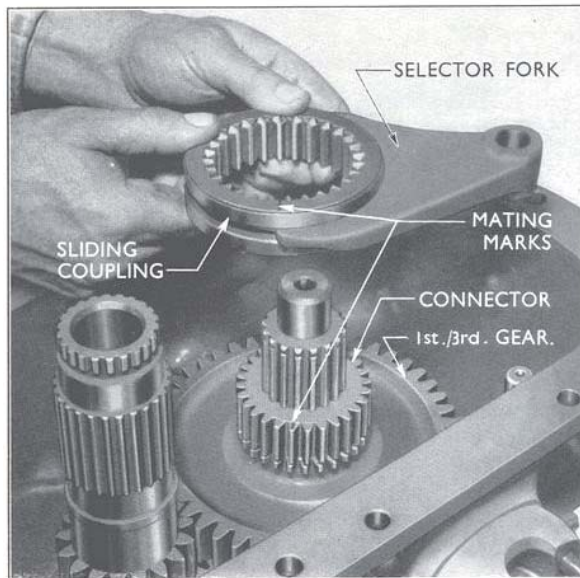

Fig. 18
4. Extract the circlip from the front end of the mainshaft and remove the splined thrust washer, followed by the second/fifth gear. Loosen the locknut and remove the screw from the first/third/second/fifth speed selector fork and withdraw the fork and sliding coupling (see Fig. 18).
**Note.**—The connector and sliding coupling are serviced as a matched assembly, the faces of the splines being marked to indicate their relative radial position when assembled (see Fig. 18).